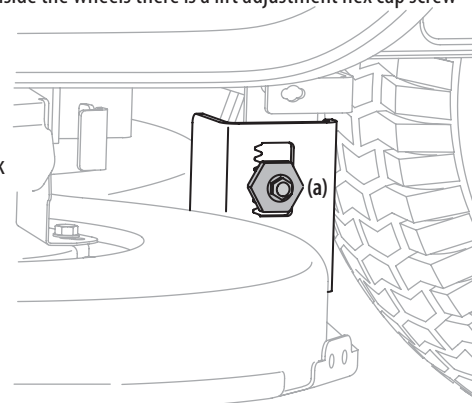

Figure 28
3. Under the rear fenders inside the wheels there is a lift adjustment hex cap screw and gear for each side of the deck. See Figure 28.